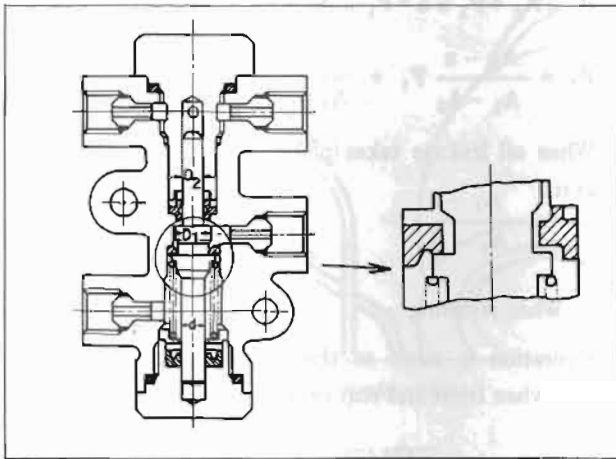

Fig. BR-10 Plunger and seal operation when pressure is applied (under split point)
When pressure further drops down to the split point, the plunger is pushed by spring force, the condition recovers to the original condition, and with the balance of equation (1) being maintained, oil pressure drops. (Refer to Figure BR-10.)
front brake side becomes 0, depressing the plunger downward by force of $(P_1 \times A_1 - P_1 \times A_2)$. Passage is opened until it overcomes spring and friction forces F , and hence, oil pressure on the master cylinder rear side is balanced with that on the rear wheel cylinder side. (Refer to Figure BR-10.)